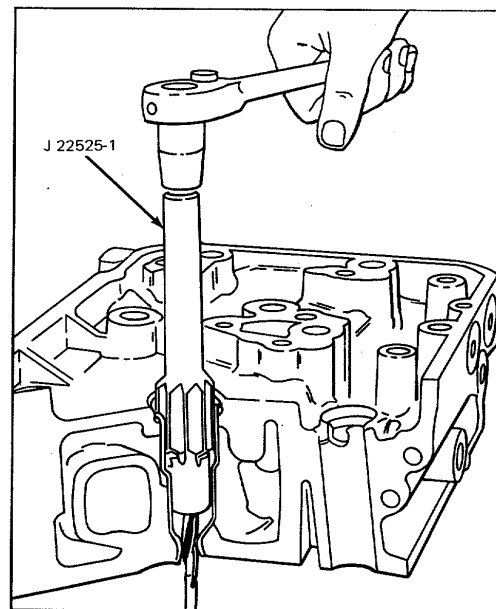

Figure 2. Installing Injector Tube.
2. Place installer J 5286-4 in the injector tube. Then insert pilot J 5286-5 through the small opening of the injector tube and thread it into the tapped end of the installer (Fig. 2).
3. Slip the injector tube into the injector bore and drive it in place as shown in Fig. 2. Sealing is accomplished between the head counterbore (inside diameter) and outside diameter of the injector tube. The tube flange is merely used to retain the seal ring.